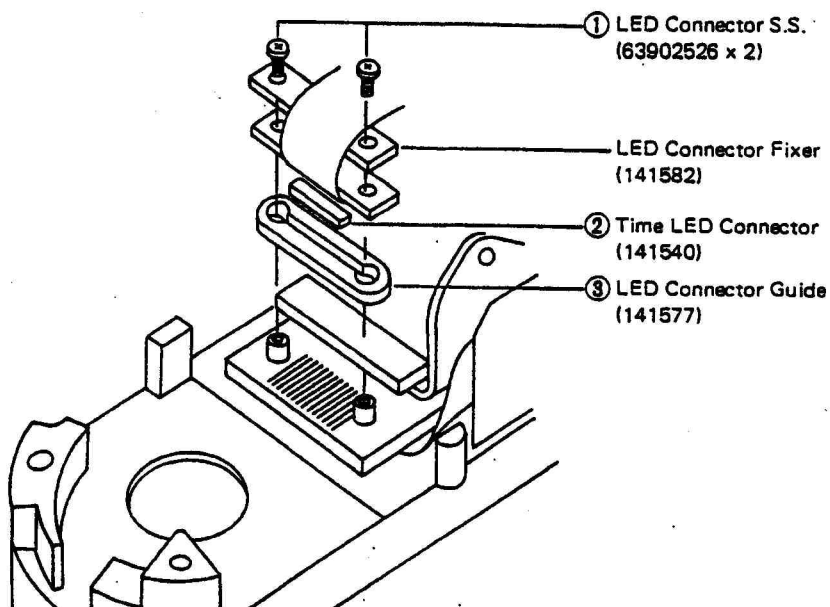

Fig. 61
- e) Remove the respective parts ①~③ shown in (fig. 61) in numerical order.